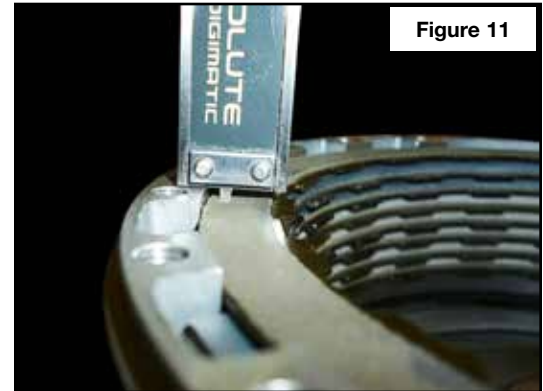

Figure 11
- d. With the clutch pack installed, measure the clearance from the top friction to the end face of the housing. Measure in multiple locations to ensure an accurate reading. Clearance should be between .050" and .060" (**Figure 11**). Adjust clearance by substituting different thickness steel plates.